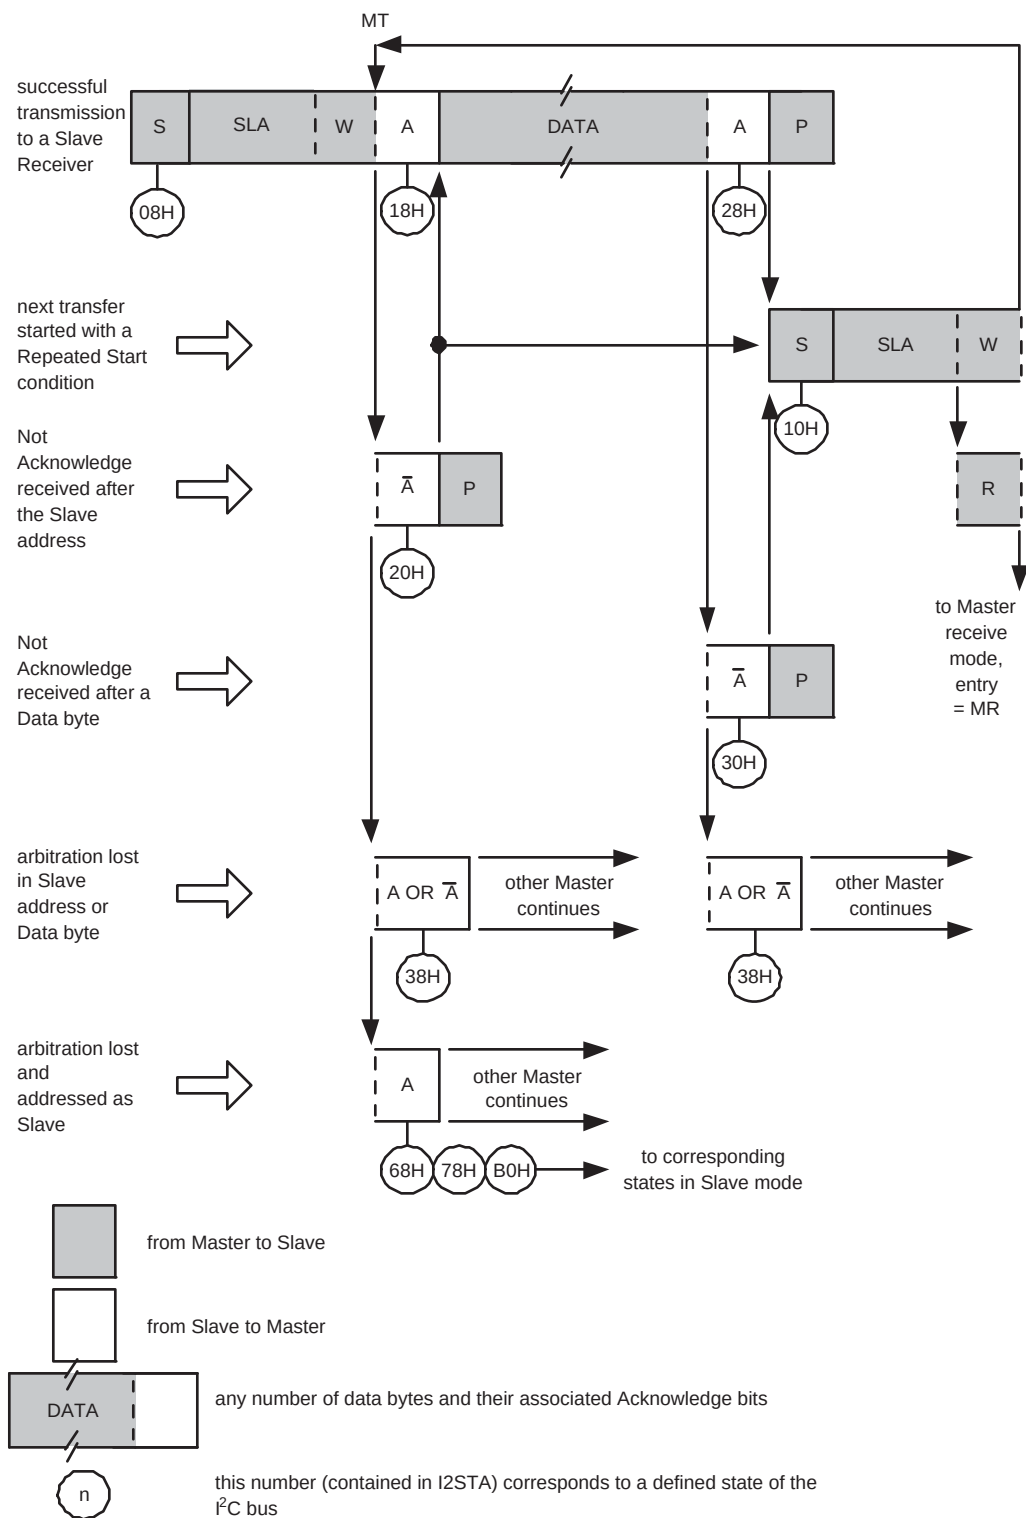
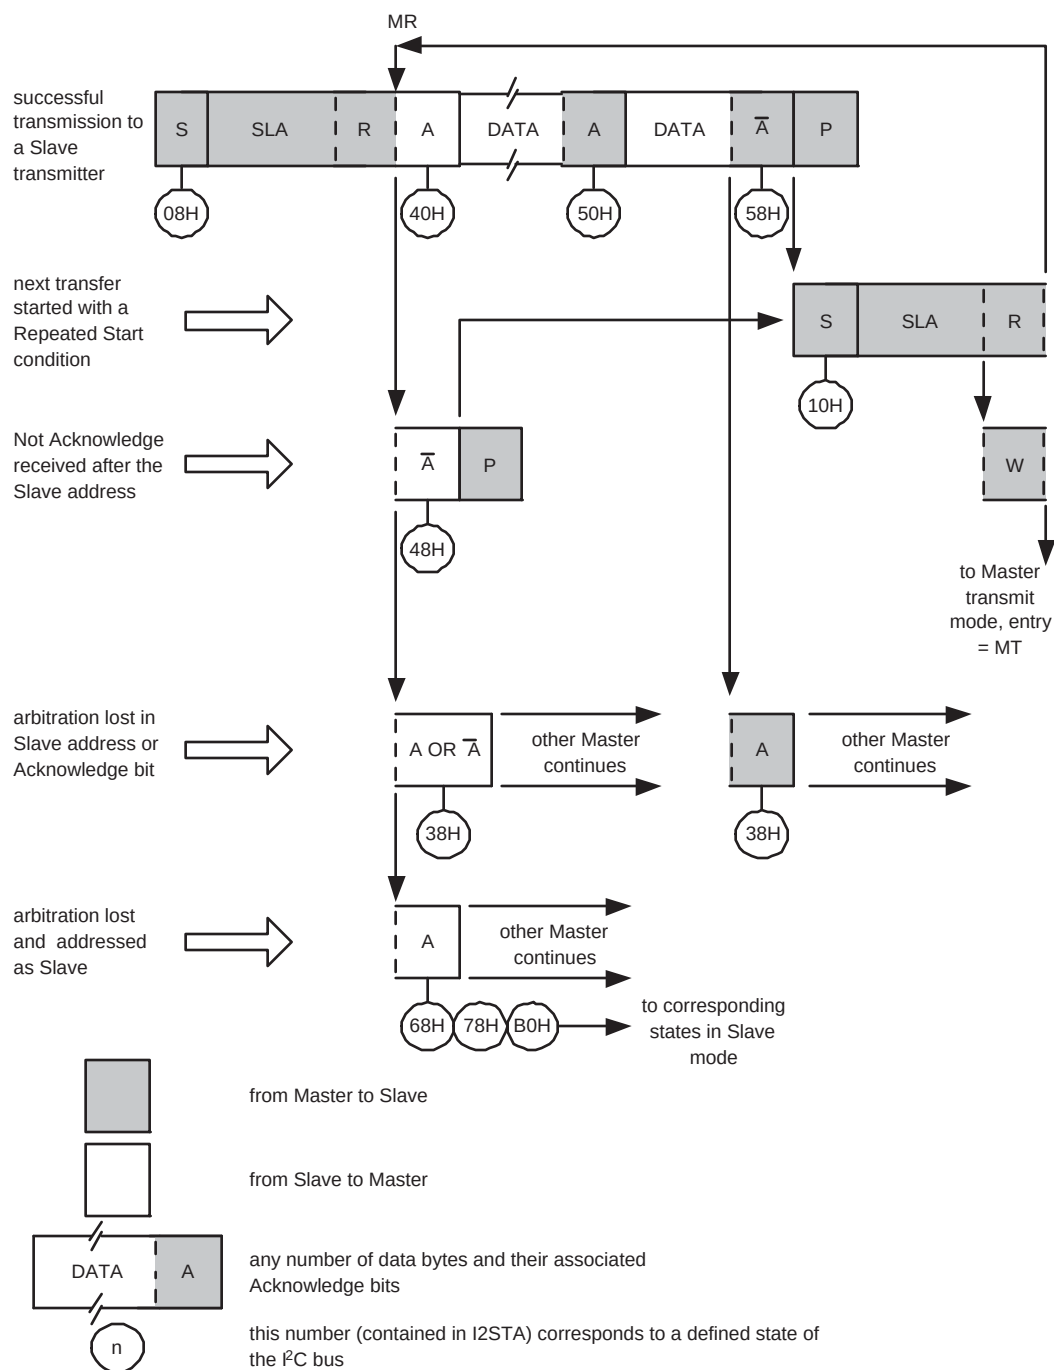
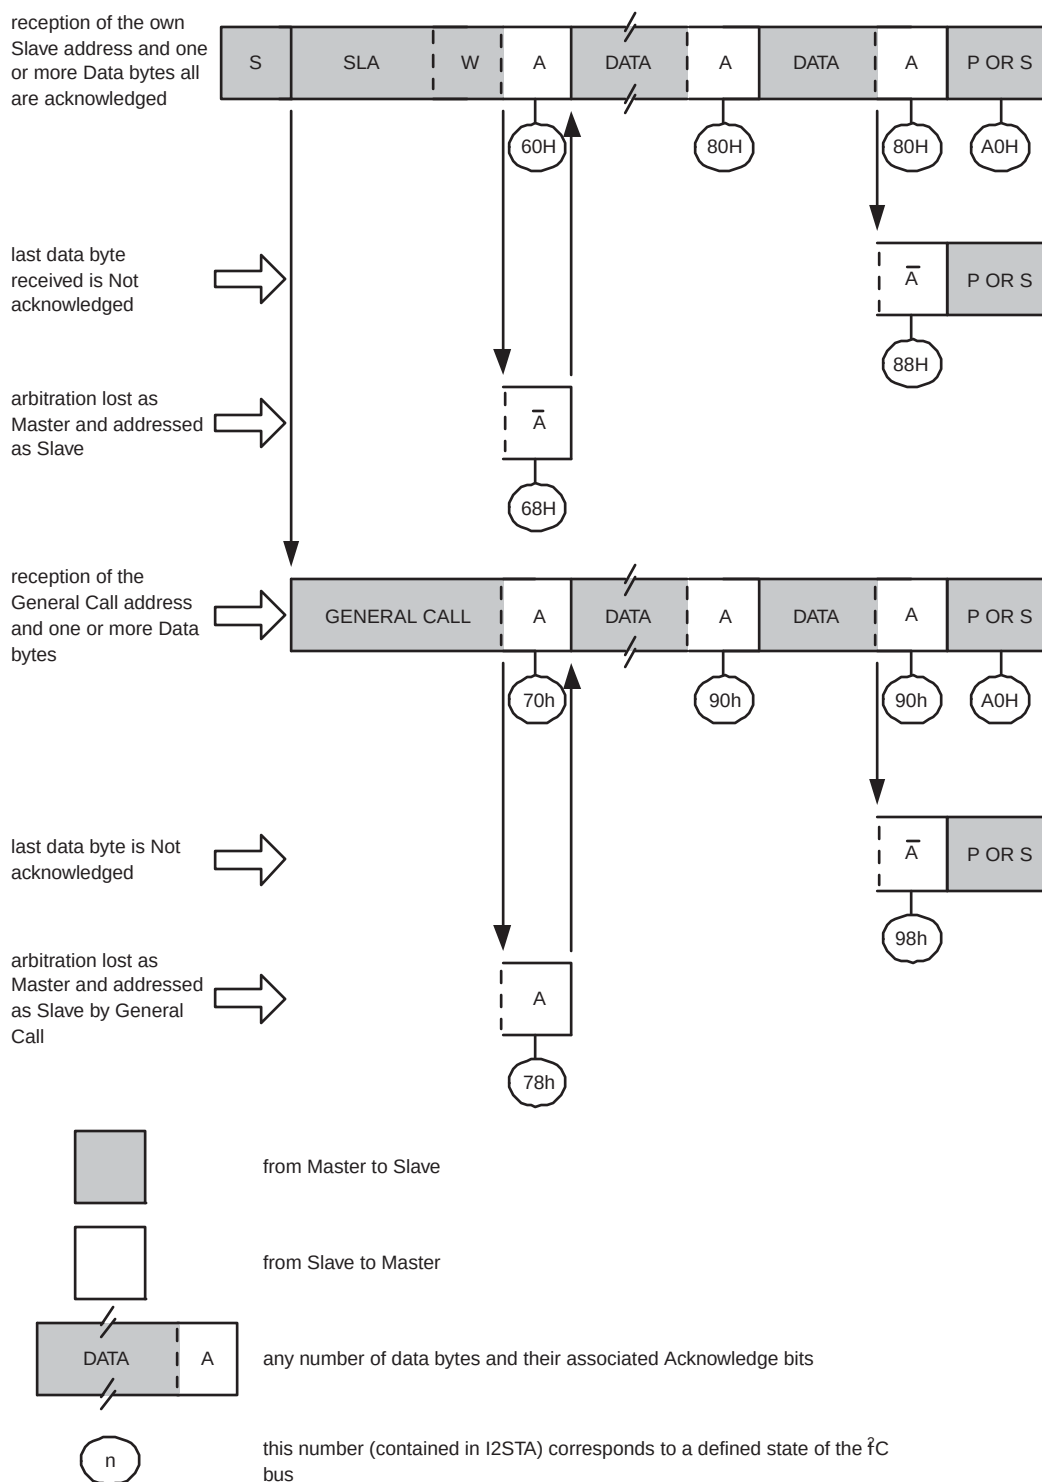
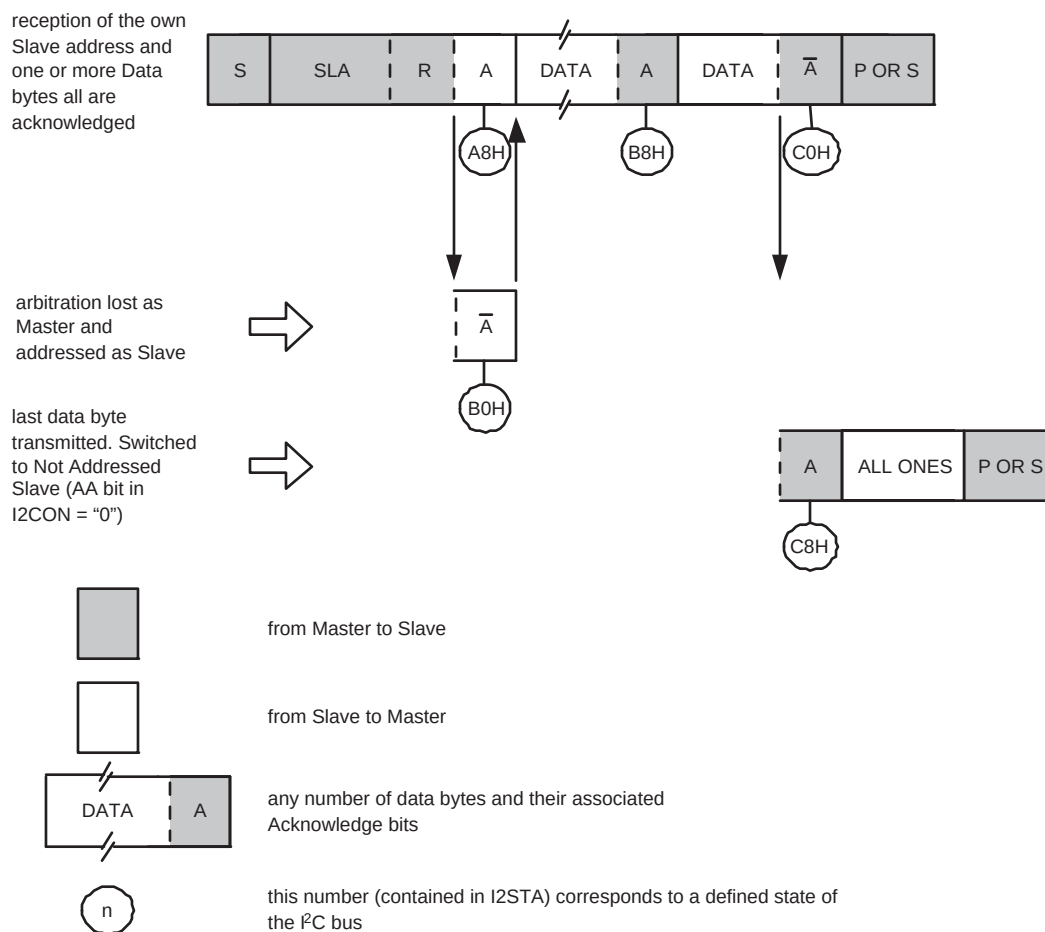

Fig 94. Format and states in the Master Transmitter mode
Fig 95. Format and states in the Master Receiver mode
Fig 96. Format and states in the Slave Receiver mode
Fig 97. Format and states in the Slave Transmitter mode
Data transfers in each mode of operation are shown in Figure 94, Figure 95, Figure 96, Figure 97, and Figure 98. Table 396 lists abbreviations used in these figures when describing the I²C operating modes.
In Figure 94 to Figure 98, circles are used to indicate when the serial interrupt flag is set. The numbers in the circles show the status code held in the I2STAT register. At these points, a service routine must be executed to continue or complete the serial transfer. These service routines are not critical since the serial transfer is suspended until the serial interrupt flag is cleared by software.
In the master transmitter mode, a number of data bytes are transmitted to a slave receiver (see Figure 94). Before the master transmitter mode can be entered, I2CON must be initialized as follows:
In the master receiver mode, a number of data bytes are received from a slave transmitter (see Figure 95). The transfer is initialized as in the master transmitter mode. When the START condition has been transmitted, the interrupt service routine must load I2DAT with the 7-bit slave address and the data direction bit (SLA+R). The SI bit in I2CON must then be cleared before the serial transfer can continue.
In the slave receiver mode, a number of data bytes are received from a master transmitter (see Figure 96). To initiate the slave receiver mode, I2CON register, the I2ADR registers, and the I2MASK registers must be configured.
In the slave transmitter mode, a number of data bytes are transmitted to a master receiver (see Figure 97). Data transfer is initialized as in the slave receiver mode. When I2ADR and I2CON have been initialized, the I²C block waits until it is addressed by its own slave address followed by the data direction bit which must be “1” (R) for the I²C block to operate in the slave transmitter mode. After its own slave address and the R bit have been received, the serial interrupt flag (SI) is set and a valid status code can be read from I2STAT. This status code is used to vector to a state service routine, and the appropriate action to be taken for each of these status codes is detailed in Table 402. The slave transmitter mode may also be entered if arbitration is lost while the I²C block is in the master mode (see state 0xB0).